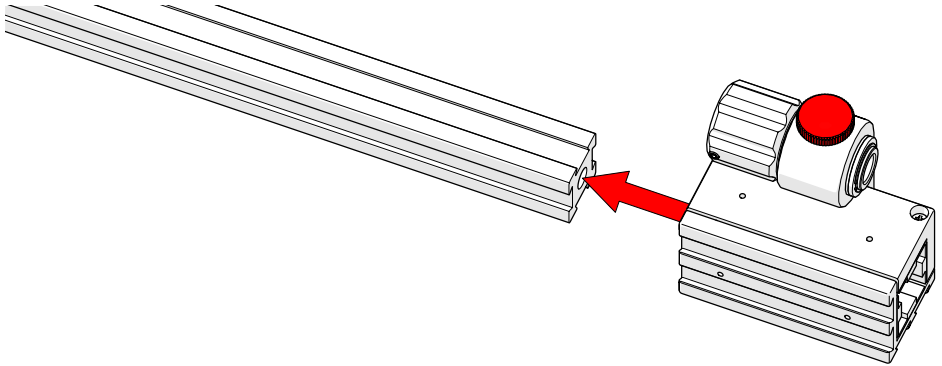

Fig. 66 - Place slider on frame bar and loosen slider lock knob
1. Ease the slider onto the frame bar and push it into position (*Fig. 66*). The slider's friction fit requires an appropriate amount of force to position the slider.
2. Loosen the slider's lock knob (*Fig. 66 - note red highlight*).